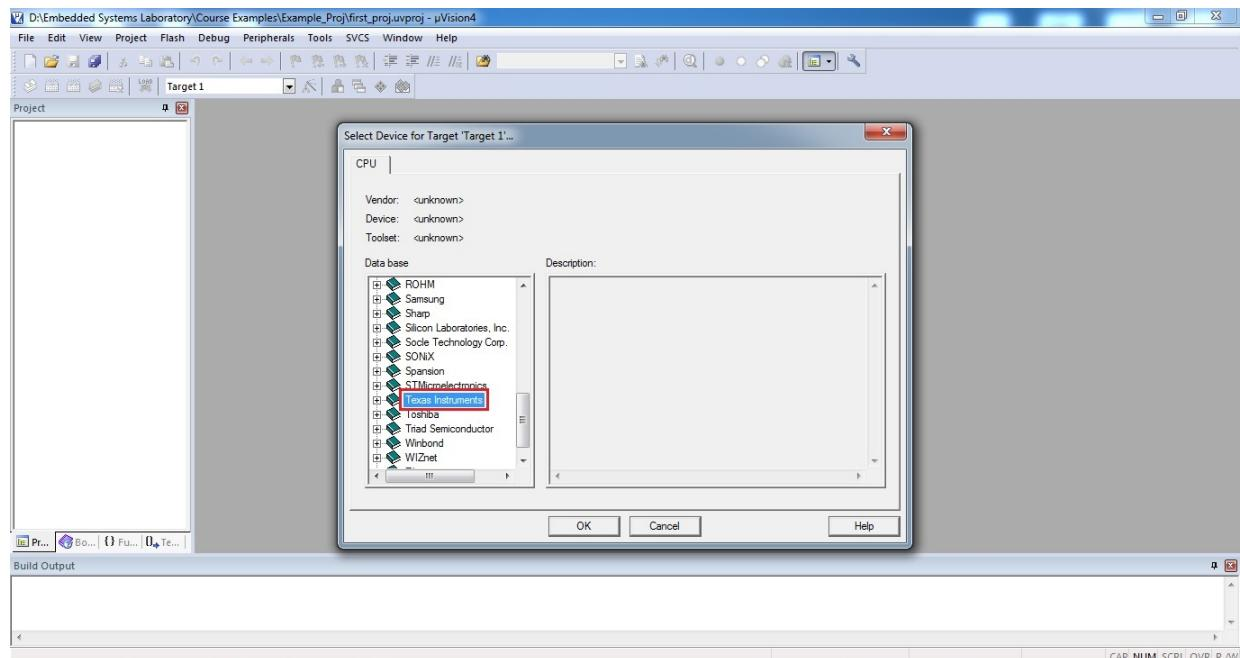

Figure 1.10: Select the manufacturer of your microcontroller
4. To select a microcontroller double click on *Texas Instruments* and select **TM4C123GH6PM** or **TM4C1233H6PM** depending upon your microcontroller. Click *OK*. (See Figure 1.10 and 1.11)